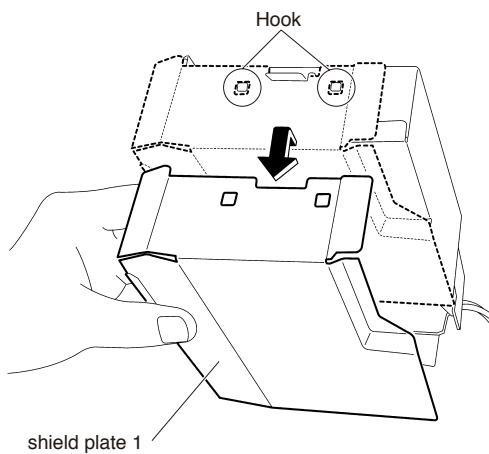

Fig. 25
(1) Unfasten the hooks at the upper 2 positions of the shield plate. (Fig.25)